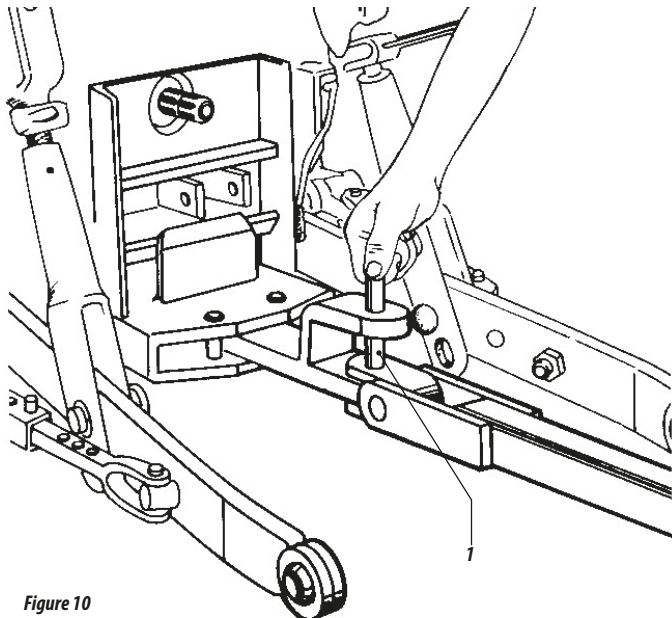

Figure 10
- 01 - To hitch the harrow on the drawbar of the tractor, must check the alignment, adjust the exact height of the hitch of the harrow, use the L coupling pin and cotter pin it as shown in Figure 10.